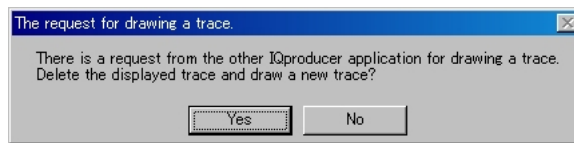

Figure 3.6-6 Confirmation Message
2. Select **Time Domain** from the **Simulation** menu or click the  tool button. The confirmation message shown in Figure 3.6-6 below appears: